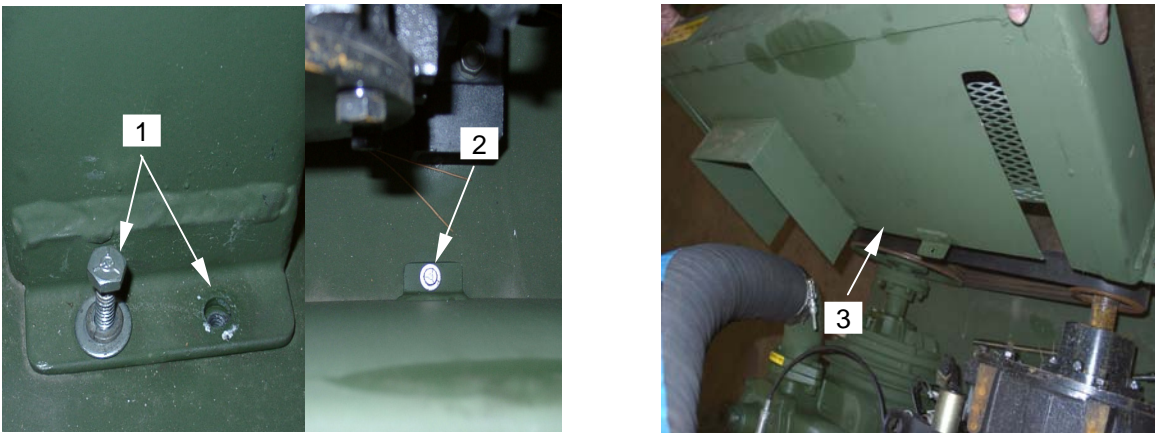

Figure 7. Removing Drive Belt Guard
2. Remove hex bolts and washers (**figure 7, item 1**) from the drive belt guard brackets. Two are located at each end of the guard (**figure 7, item 1**), and one at the rear center (**figure 7, item 2**).
3. Remove drive belt guard (**figure 7, item 3**).